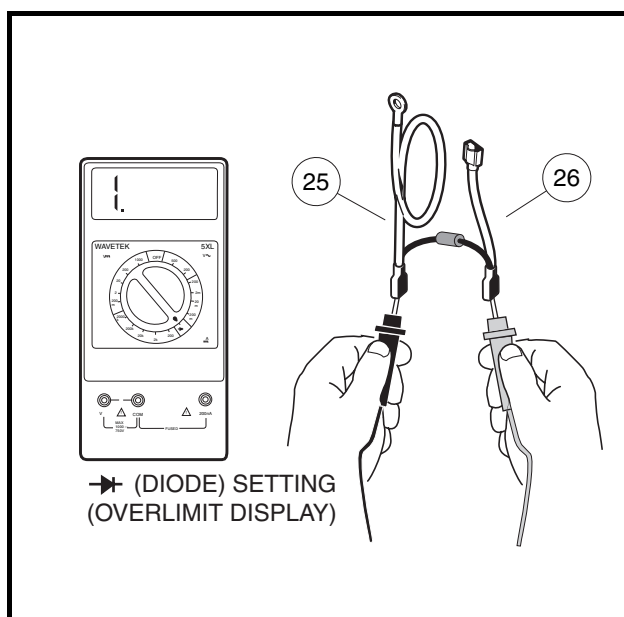

Figure 11-36 Voltage Suppressor Test
- 12.2. Set a multimeter to the diode test function (→+). Place the black (-) probe of the multimeter on the voltage suppressor red wire (25) (**Figure 11-36, Page 11-35**). Place the red (+) probe on the blue wire (26). The multimeter should indicate an overlimit with no tone emitted.